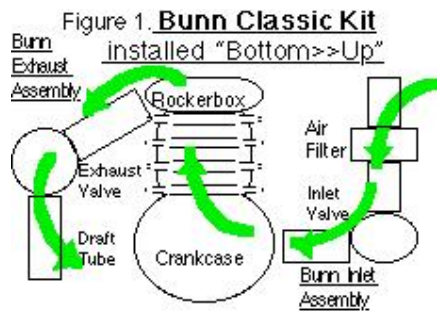

Fig 1-installing "Bottom>>Up"
3.0 **Installing the Bunn Breather:** The Bunn Classic Kit uses two access points to the crankcase or connected compartment i.e. rocker/cam boxes, timing cases or chaincase. This enables the patented crankcase pumping action. The Classic Kit offers riders the choice of purging blow-by in either "Top>Down" or "Bottom>Up" directions, depending on engine design, appearance, bike configuration, oil fling etc. Examples of these breather installations are shown below. (Refer Figures 1 and 2 below)